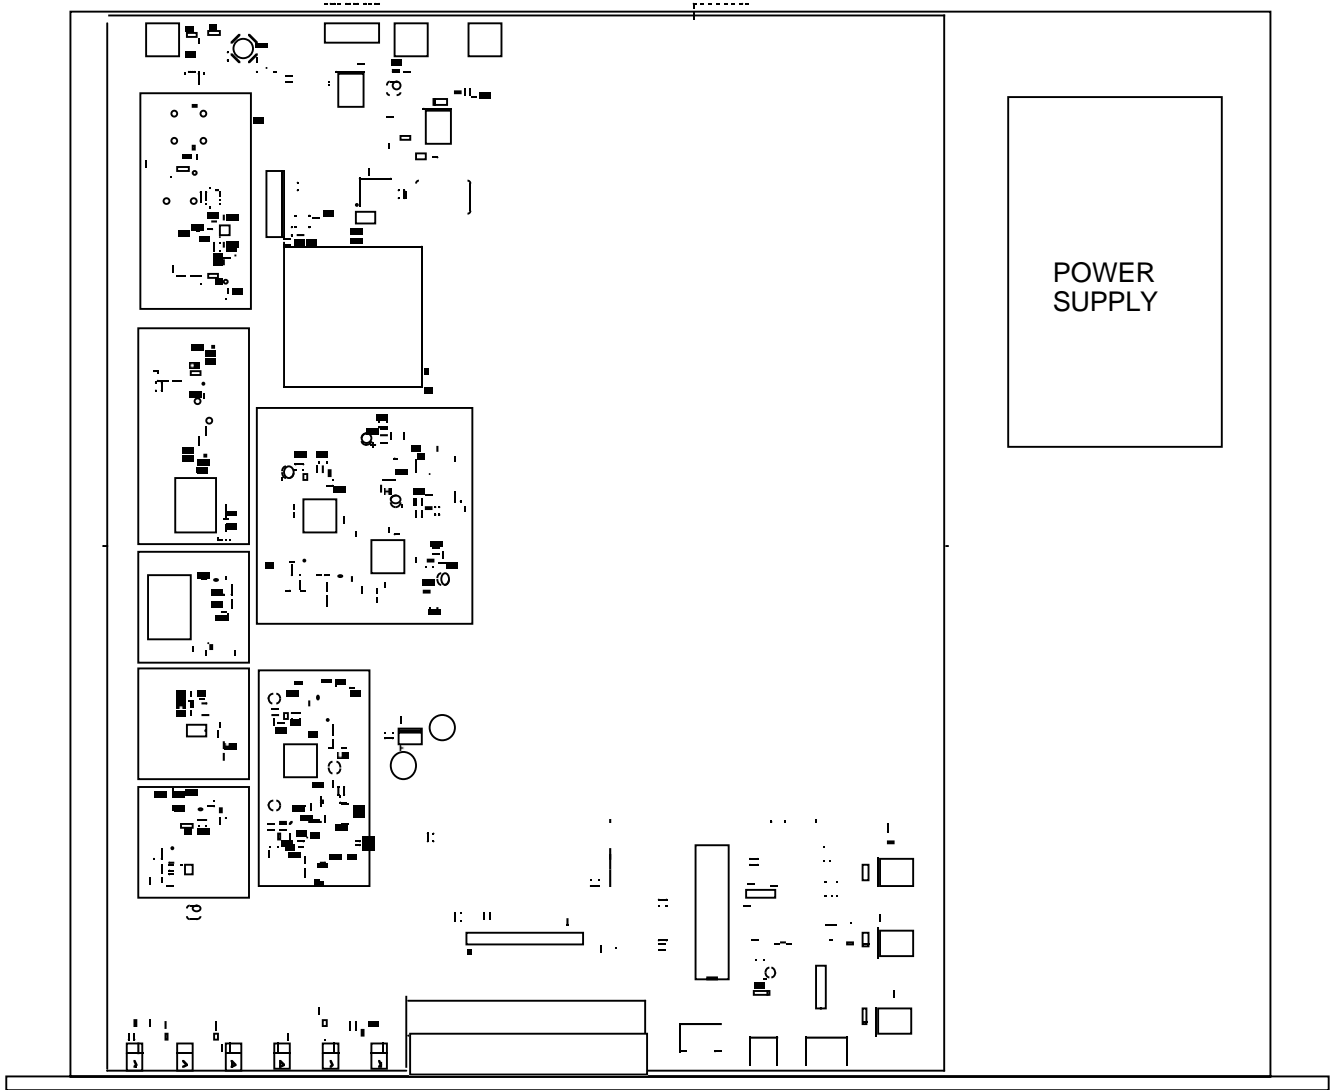

FIGURE 2.0 2015-04-720 Mechanical Assembly
2.1 Mechanical - The 2015-04-720 consists of one RF/Controller PCB housed in a 1 RU (1 3/4 inch high) by 16 inch deep chassis. A switching, ± 12 , +24, +5 VDC power supply provides power for the assemblies. The 2015-04-720 can be secured to a rack using the 4 holes on the front panel. Figure 2.0 shows how the 2015-04-720 is assembled.